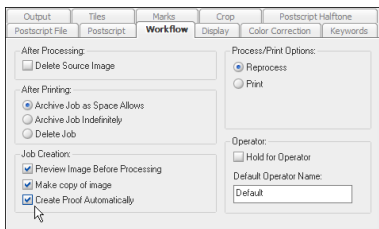

Figure 9—Proofing Using Quick Sets
4. Click **Advanced**. This opens the Edit Quick Set—Advanced Options dialog (see Figure 9).